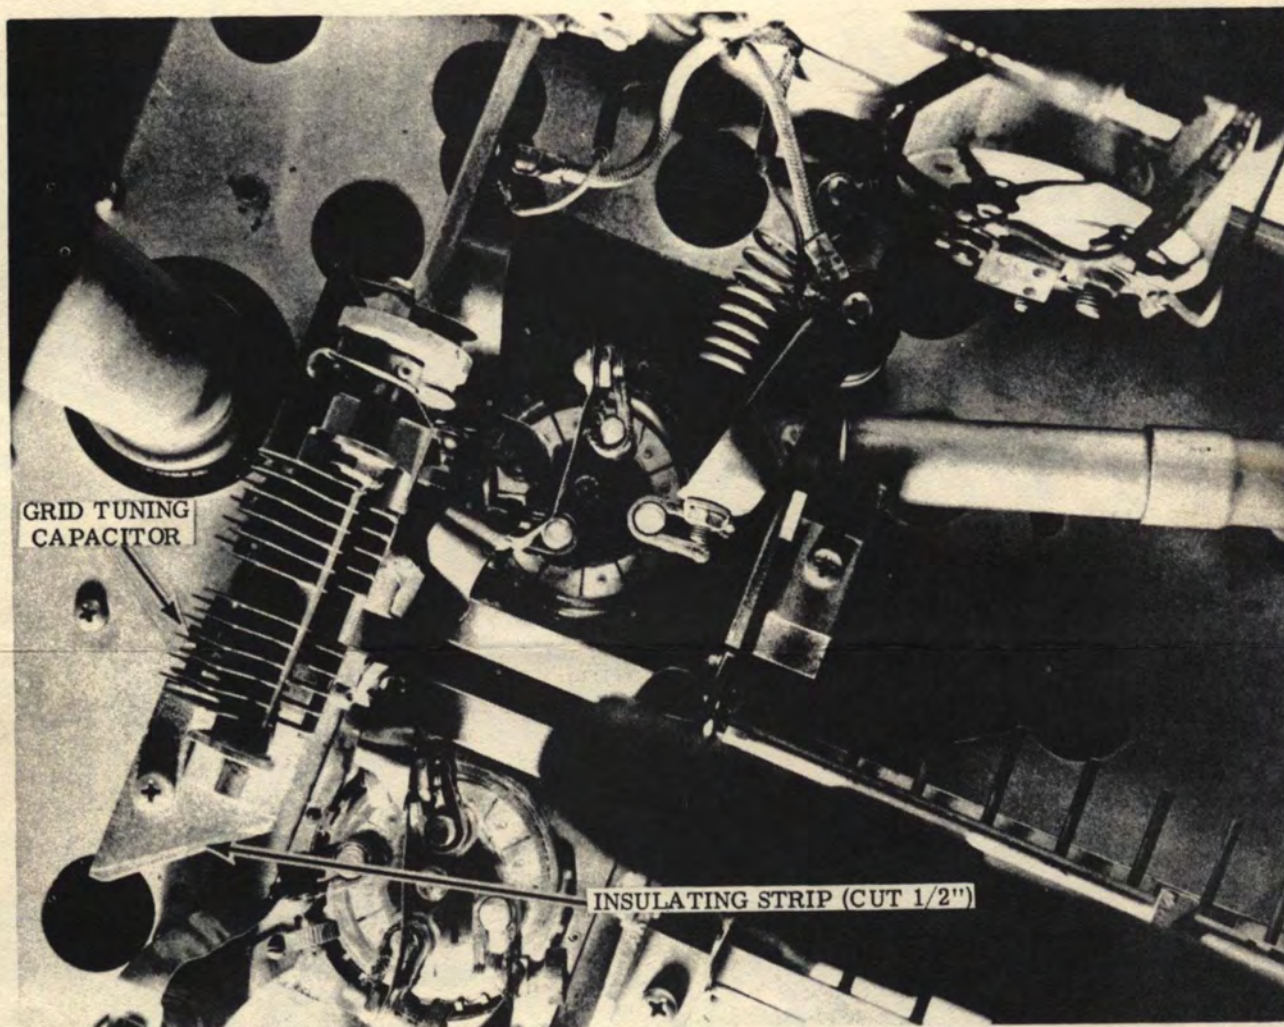

Figure 1. Grid Tuning Capacitor
8. Cut approximately 1/2 inch from insulating strips on which previous filament connectors were mounted. This leaves enough material to mount grid tuning capacitor and provides better access to filament and grid connectors. (See Figure 1.)